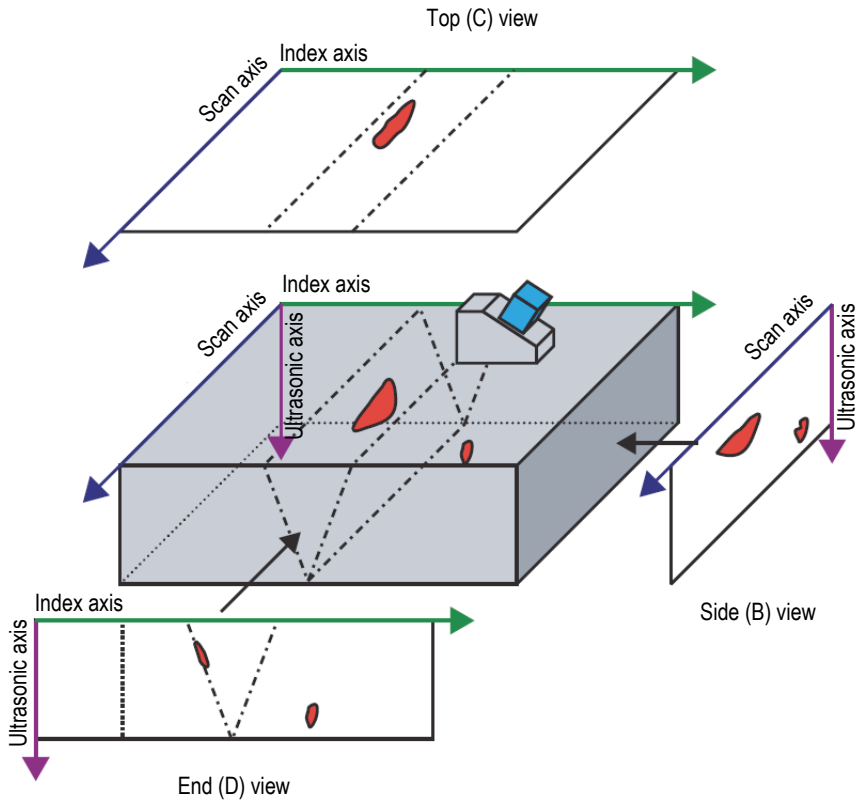

Figure 3-21 Example of ultrasonic views [Top (C), Side (B), and End (D)] with probe skew angle of 90°
Volumetric views are color-coded images built from successive A-scans projected on different planes defined by the ultrasonic, scan, and index axes. The most important views, similar to 2-D projections of a technical drawing, are presented in Figure 3-21 on page 79.
In Figure 3-21 on page 79, if the probe skew angle is 0° (or 180°), the Side (B) view becomes the End (D) view, and vice versa. The Side (B) view is defined by the depth and probe-movement axes. The End (D) view is defined by the depth and the electronic-scan axis.